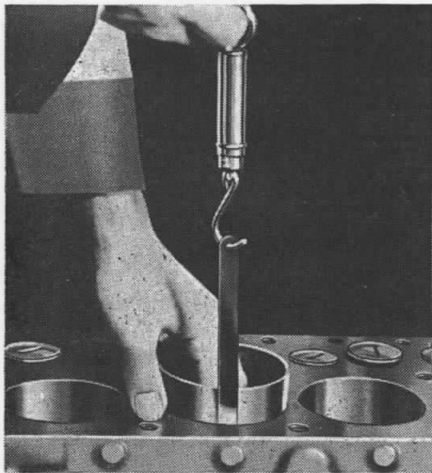

Fig. MH142—Checking piston fit.
55. Cast iron pistons are used and are available for renewal in standard and various oversizes to fit honed or rebored cylinders. On some models, semi-finished pistons are also available. Piston skirts, which are slightly out of round, can be corrected by light tapping with a rawhide mallet. NOTE: Extreme care is required for this operation, and piston must be carefully examined for cracks after truing. Pistons are fitted with piston pins out. Piston fit is checked by placing a feeler blade between the piston thrust face, which is at a right angle to the piston pin, and the cylinder wall, as shown in Fig. MH142. Feeler gage size and the spring scale tension required to withdraw the feeler is given in Table 4. If cylinder bore to piston clearance is more than 0.010 inch the bore should be reconditioned and a suitable oversize piston installed.